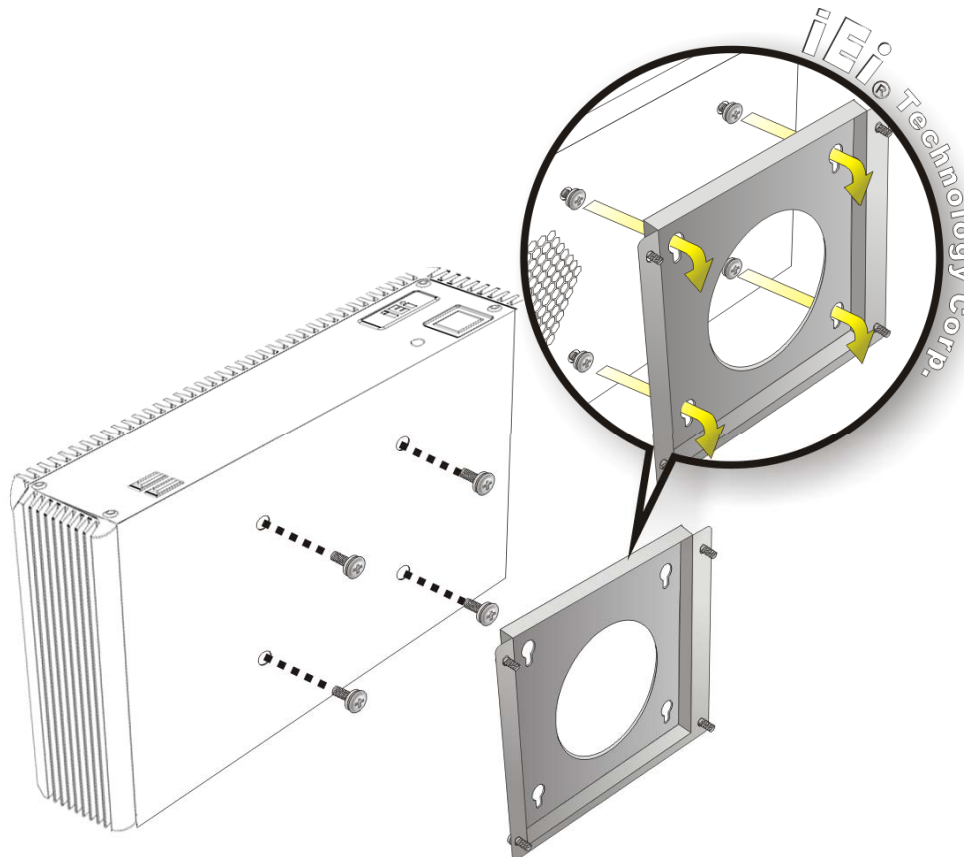

Figure 4-8: Mount the Embedded System
- Step 6:** Insert the four monitor mounting screws provided in the wall mounting kit into the four screw holes on the bottom panel of the system and tighten until the screw shank is secured against the bottom panel (**Figure 4-8**).
- Step 8:** Carefully insert the screws through the holes and gently pull the monitor downwards until the ECW-281B/281B2-R30/N270 rests securely in the slotted holes (**Figure 4-8**). Ensure that all four of the mounting screws fit snugly into their respective slotted holes.